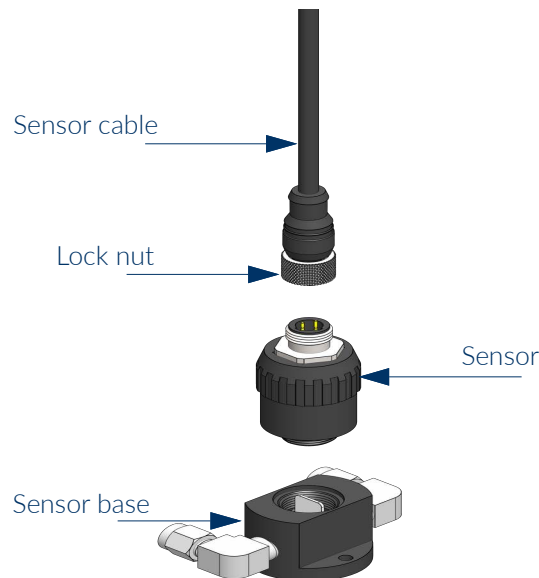

Figure 7. Installing and uninstalling your sensor (GPR-2000)
3. If replacing the sensor, disconnect the sensor cable from the old sensor by turning the lock nut counter-clockwise, otherwise continue to step 5. Refer to Figure 7 below.